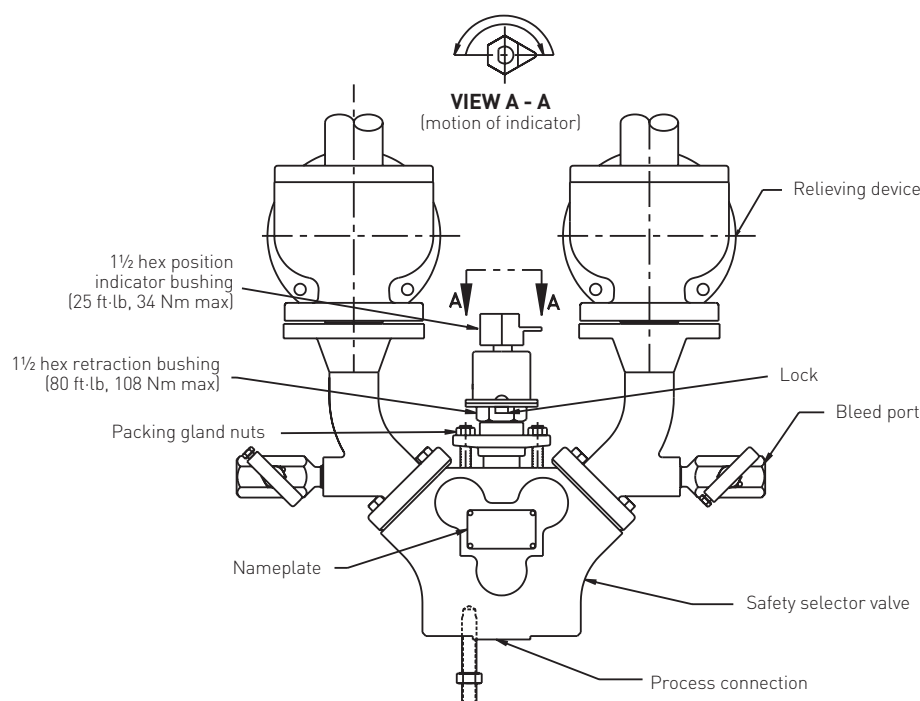

FIGURE 1
Refer to Figures 1 and 2 and follow these steps:
4. Rotate 1½" hex red position indicator bushing 180° to stop. Maximum torque should not exceed 25 ft-lb. Refer to view "A-A" of Figures 1 and 2.